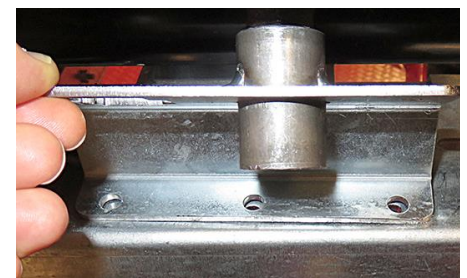

Figure 38
42. Position over the pre-drilled holes (see Figure 38).